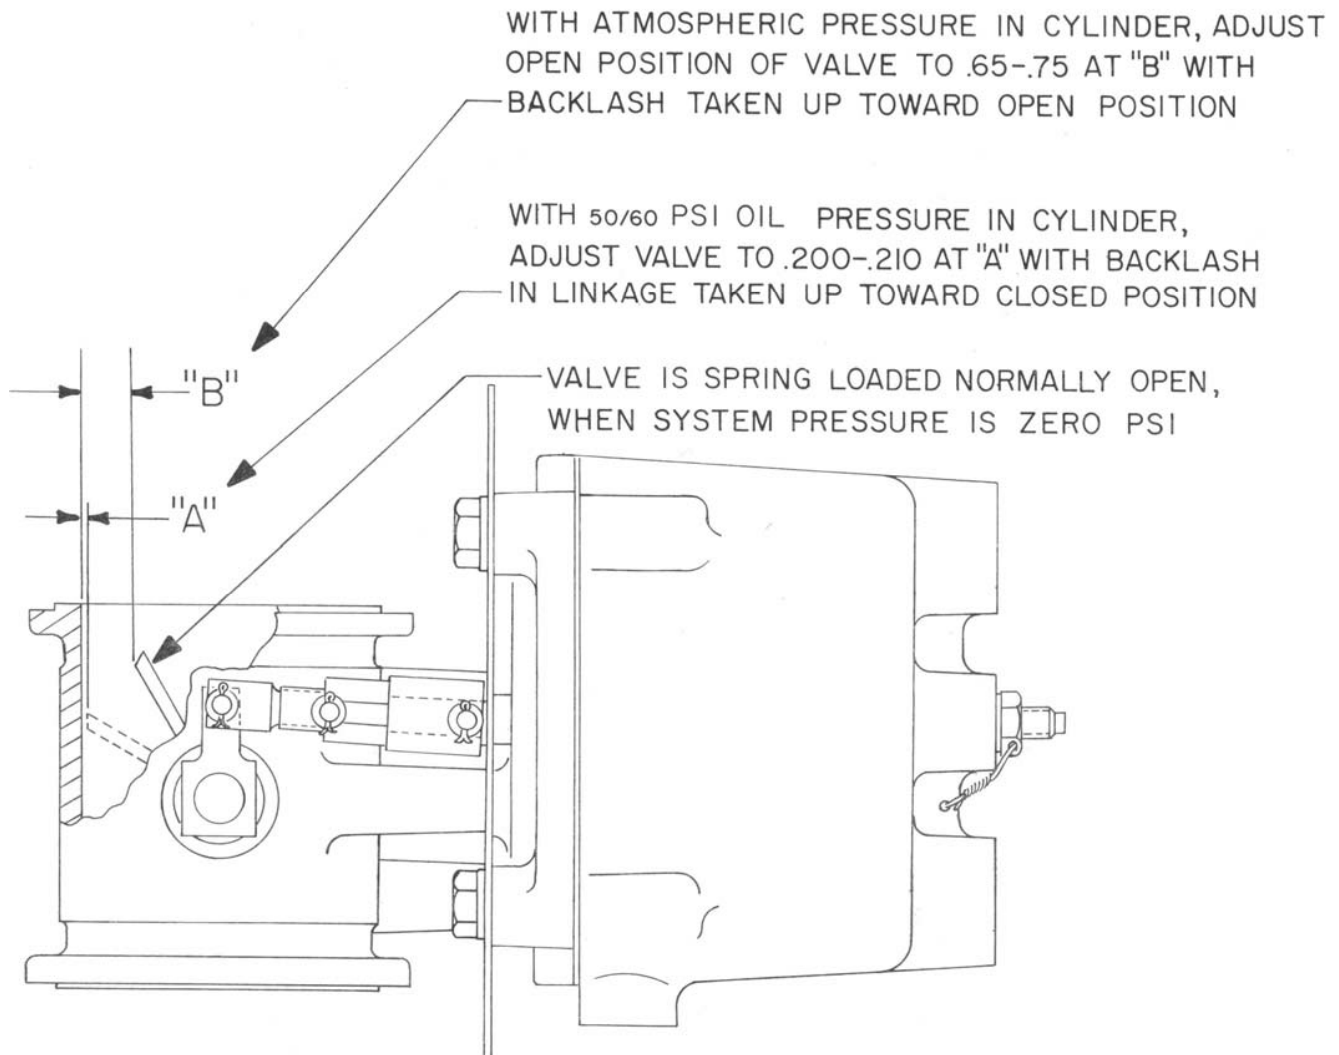

Figure 5-2. Exhaust Bypass Valve (Waste Gate) Open and Closed Settings
- a. *Exhaust Bypass Valve (Waste Gate)* – The waste gate is set to a predetermined setting as shown in Figure 5-2. This setting determines the critical altitude of the helicopter. The opening and closing of the valve during operation is controlled by oil pressure regulated by the density controller.